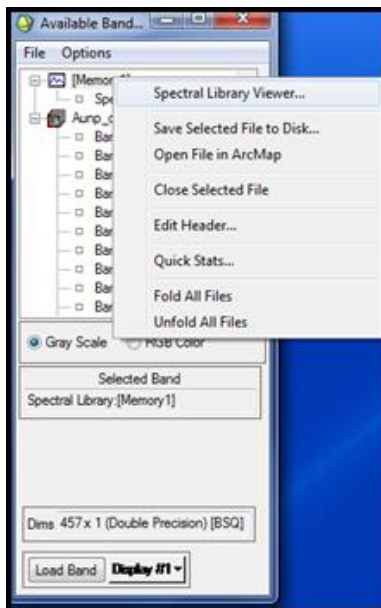

Figure 5.2g
- Right click on Memory in the Available Bands list (Figure 5.2g).